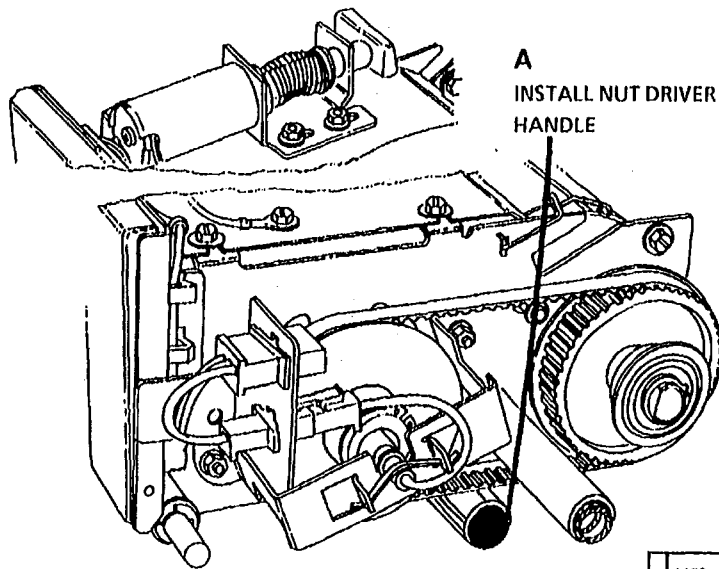

Figure 1. Installing the Nut Driver Handle
2. (Figure 1): Install the Nut Driver Handle